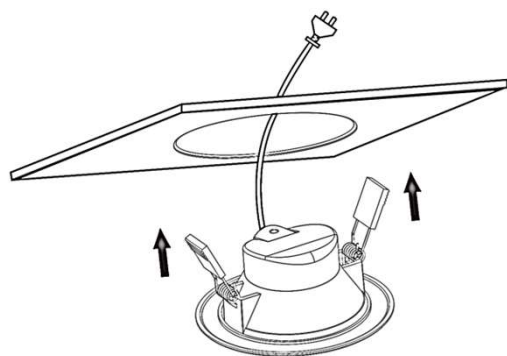

Fig.3.
- Push the springs up and put the downlight module up through the cut-out hole and into the ceiling (Fig.3.).